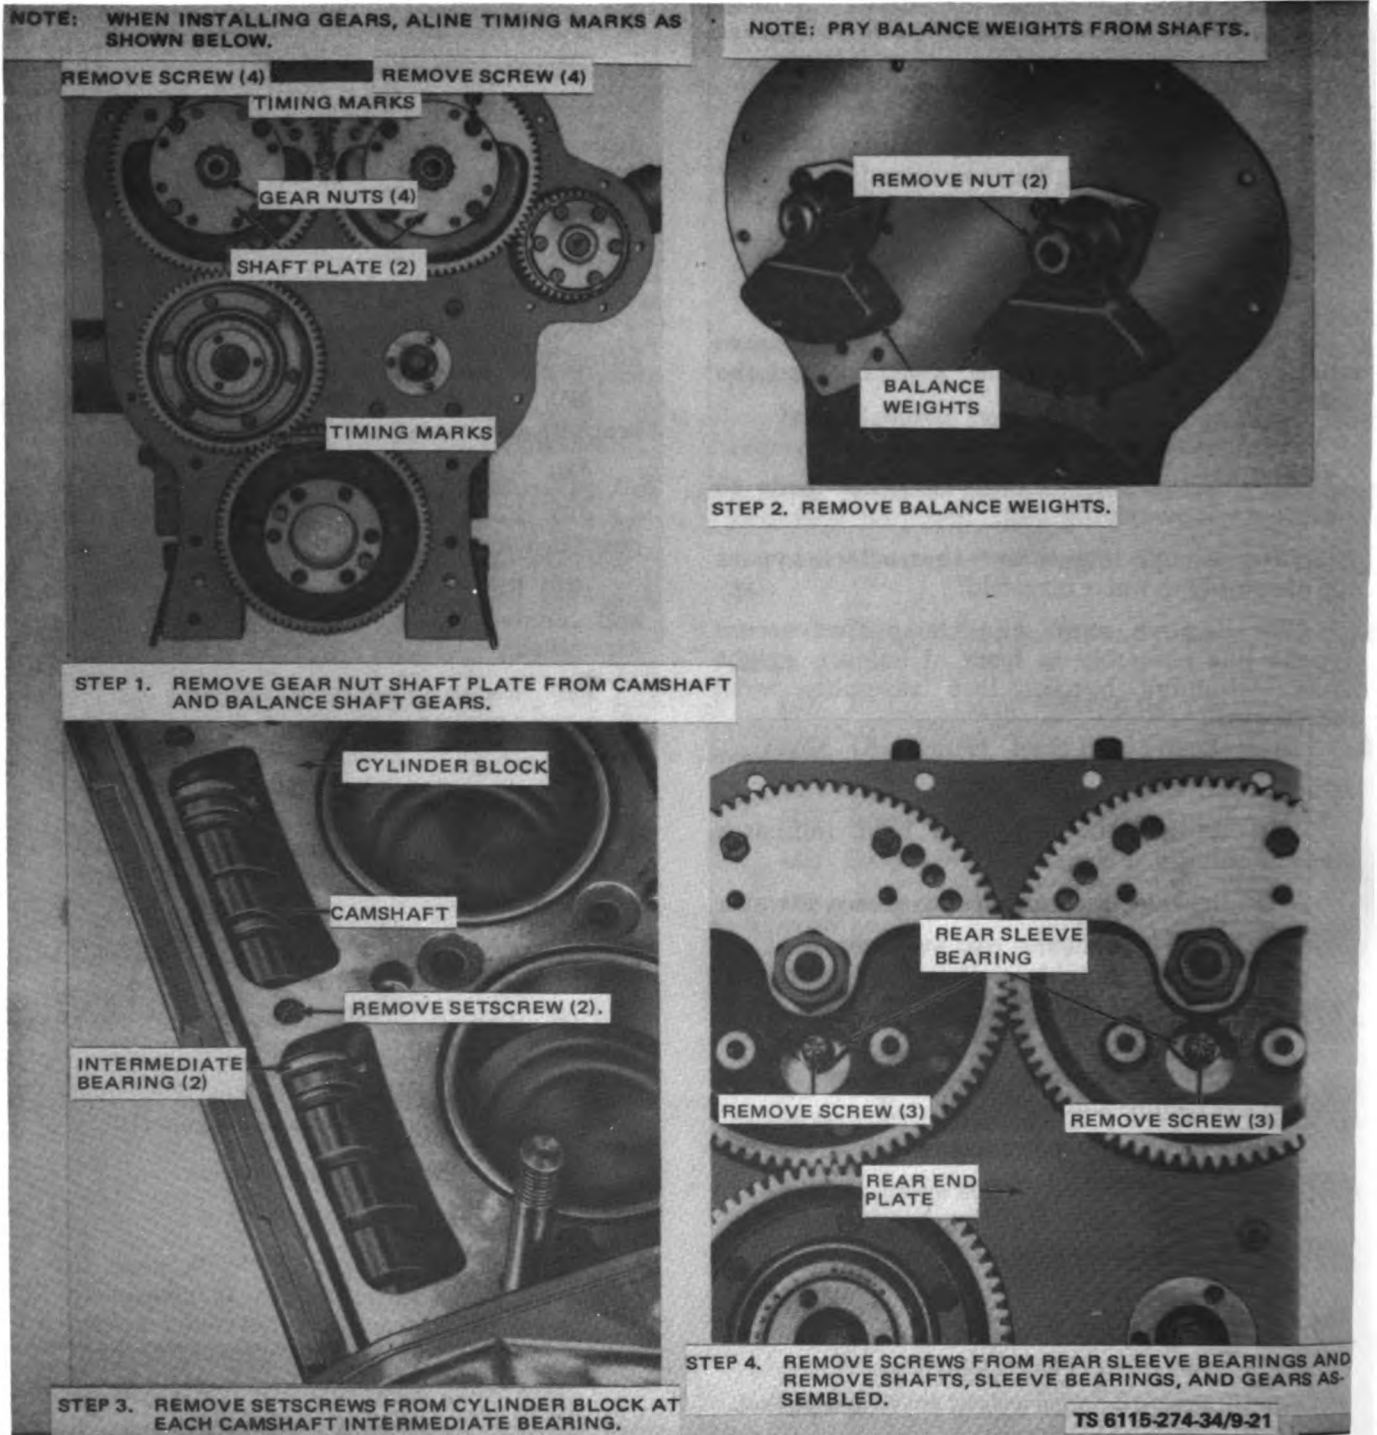
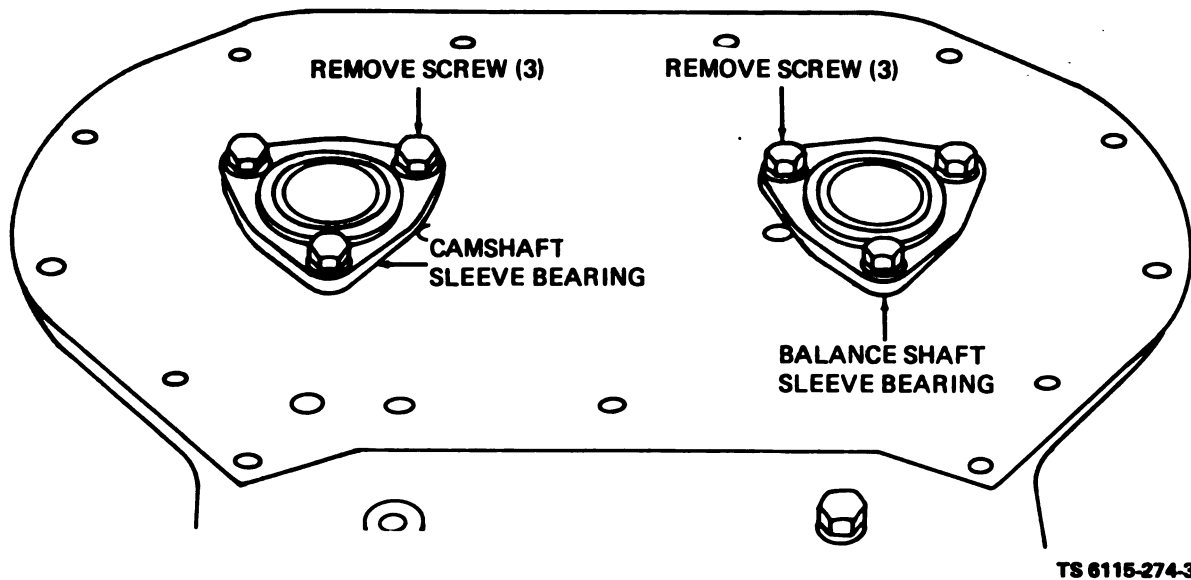

Figure 9-21. Timing Gears and Shafts, Removal and Installation
Figure 9-22. Front Sleeve Bearings, Removal and Installation
(94) Remove two vertical screws from each lifting bracket.
(95) Attach suitable lifting device to lifting brackets and remove cylinder head.
(96) Remove gasket from cylinder block.
(97) Refer to figure 9-21 and remove components in accordance with steps of procedure.
(98) Remove screws from rear sleeve bearings and remove shafts, sleeve bearings, and gears assembled.
(99) Remove six screws from plate (fig. 9-22).
(1) Install front sleeve bearings with screws (fig. 9-22).
(2) Install assembled shafts, sleeve bearings and gears and attach rear sleeve bearings with screws (fig. 9-21).
(3) Install setscrews at each camshaft intermediate bearing.
(4) Install balance weights and fasten with nuts.
(5) Install gear nuts on shaft.